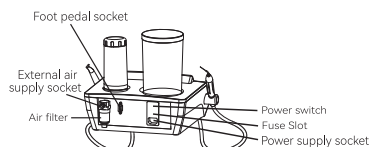

Figure 2 Back View
- 2.6.6. Turn off the power switch, connect the power cord to the power socket on the back of the main unit, and then plug the power cord into the power supply, as shown in Figure 2.